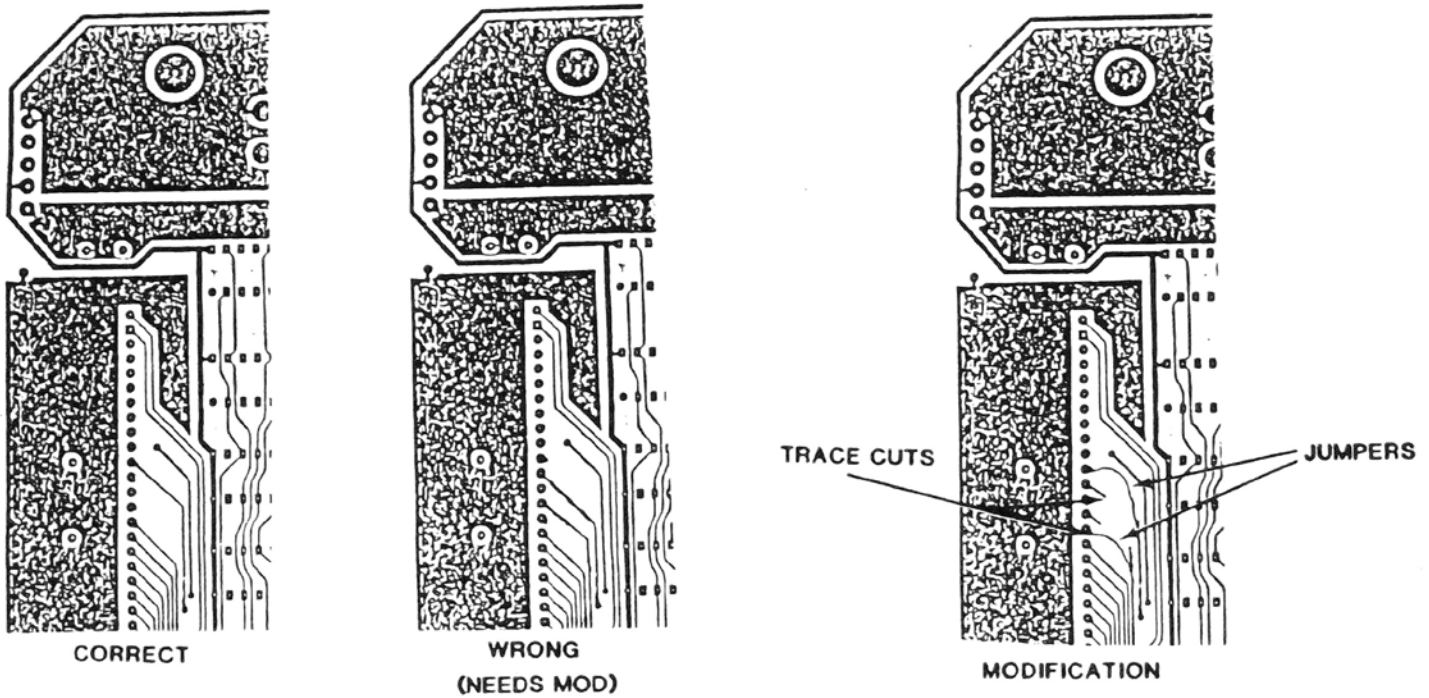

Figure 0.11
4. There are two versions of rev A PCB3. One version requires corrections to traces off TB301. Figure 0.11 shows the differences between these versions, and the modification required.